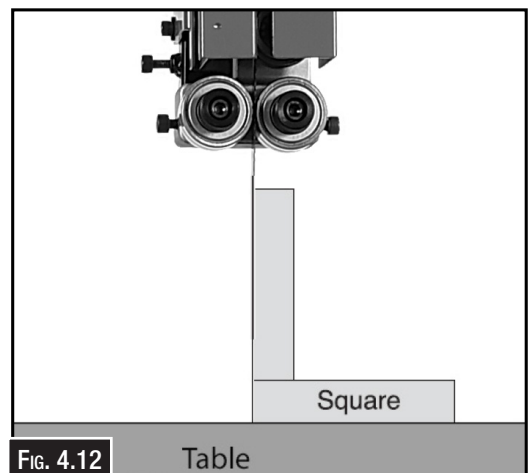

FIG. 4.12
4. Raise the guide post and place a machinist's square on the table next to the side of the blade, as illustrated in Fig. 4.12. Adjust the table square with the blade, then secure with the table tilt knobs.